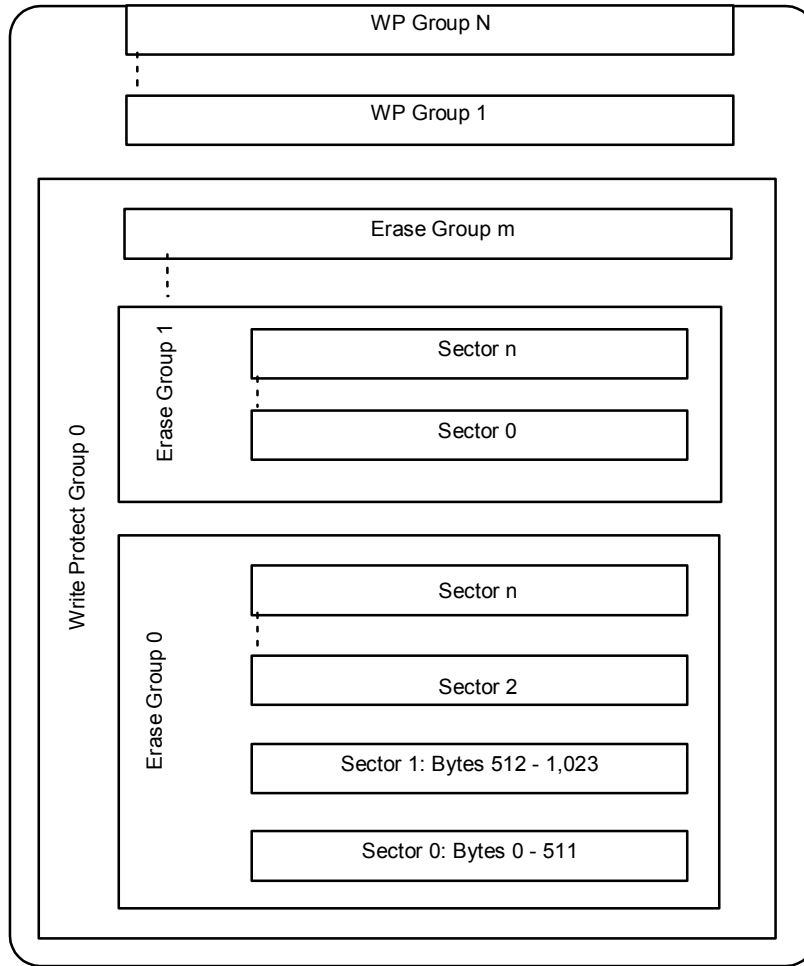

Figure 1-2. Memory Array Partitioning
- Erase groups are grouped into Write Protect Groups (WPG) of 32 erase groups. The write/erase access to each WPG can be limited individually. A diagram of the memory structure hierarchy is shown in Figure 1-2.